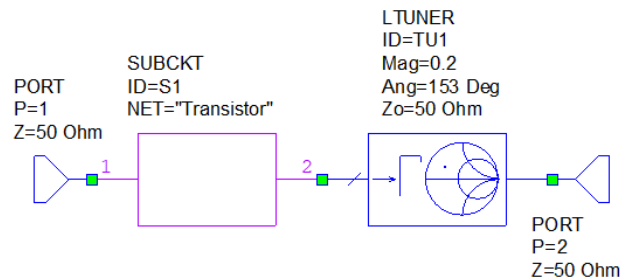

Fig. 7 Transistor loaded with an ideal load to produce gain 15 dB.
- At first, the input matching circuit can be designed. Create a new schematic, add the Subcircuit Transistor, element LTUNER (can be found in ELEMENTS – GENERAL – PASSIVE – OTHER) to the output of the transistor and both ports. See Fig. 7.